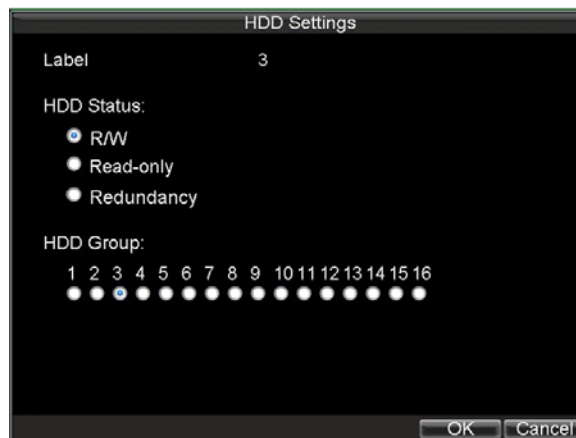

Figure 5. HDD Settings Menu
4. Set the **HDD Group Number**, as shown in Figure 5.